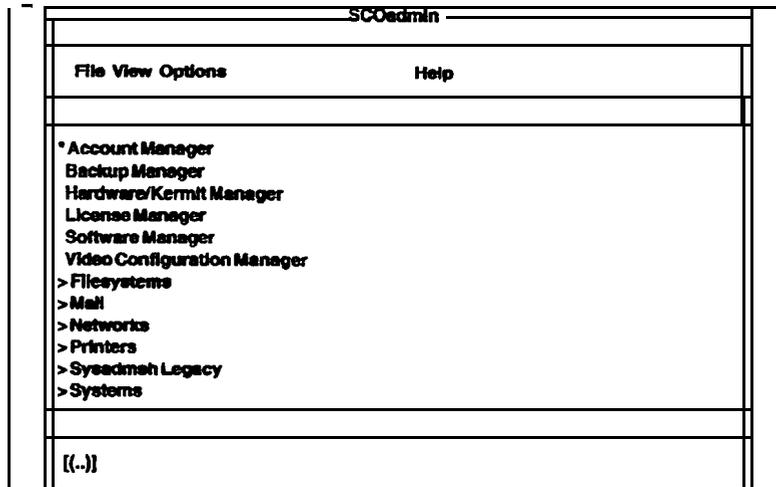

Figure 9-2. SCOadmin Screen
1. From root **login** type **scoadmin** and press **RETURN**. This gives you the **SCOADMIN Menu** (see Figure 9-2).